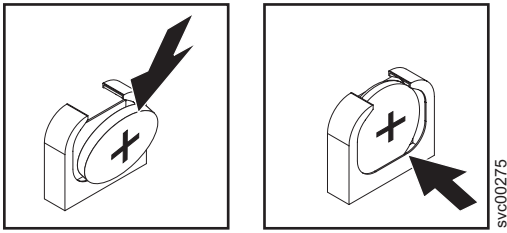

Figure 140. SAN Volume Controller 2145-CG8 or 2145-CF8 CMOS battery holder
- b. Press the battery across into the socket until it clicks into place. Make sure that the battery clip holds the battery securely, as shown in Figure 140 on page 150.